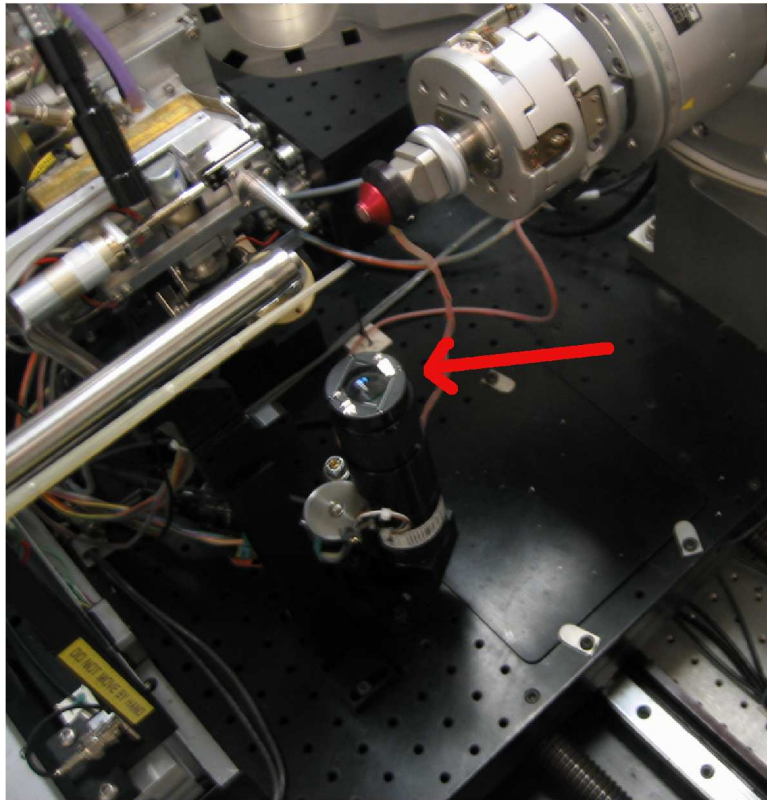

Figure 7: The sample camera
- If the crystal has snow flakes, it can be cleaned by pouring a small amount of liquid nitrogen (use a cryo-vial) over it. Protect the sample camera (fig.7) by covering it with a clean light